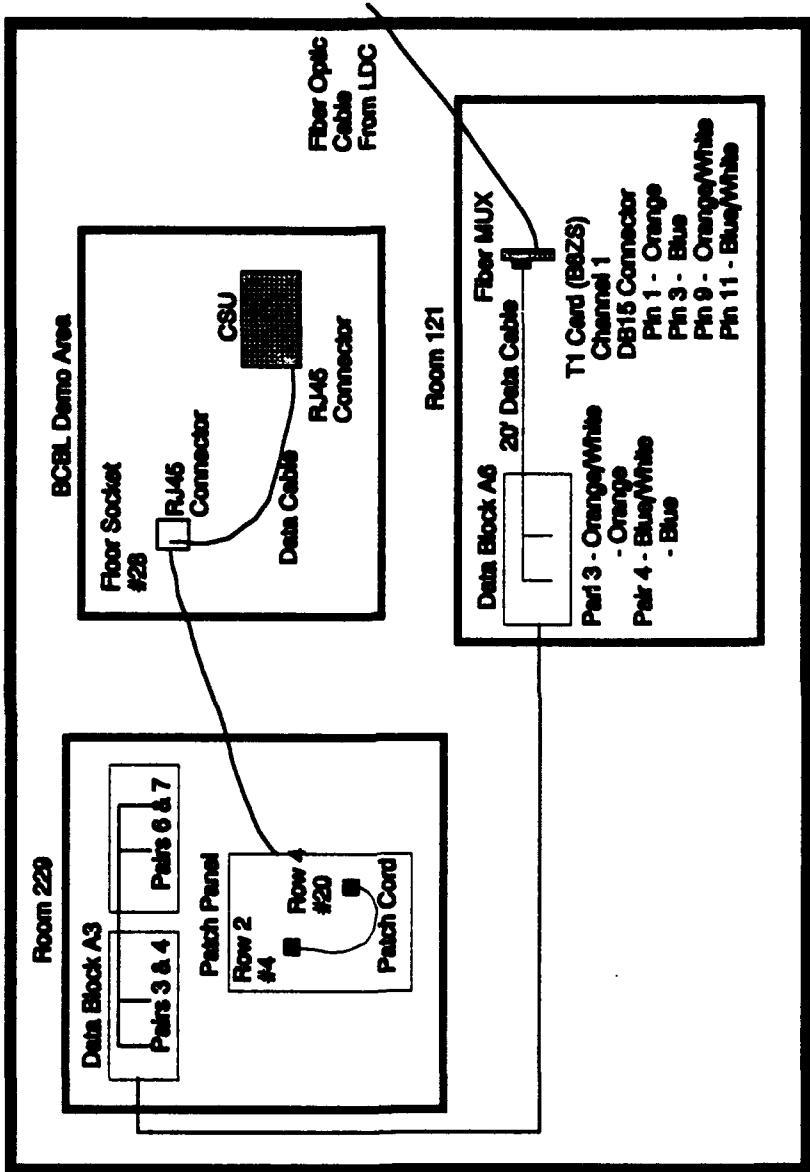

Figure 5-2 LDC to BCBL Link (Cont)
**Figure 5-1 depicts the communications link from the VSAT to the fiber-optic cable leading from the LDC. Figure 5-2 shows the path from the fiber-optic cable leading to the BCBL and, thence, to the C2 applications.**